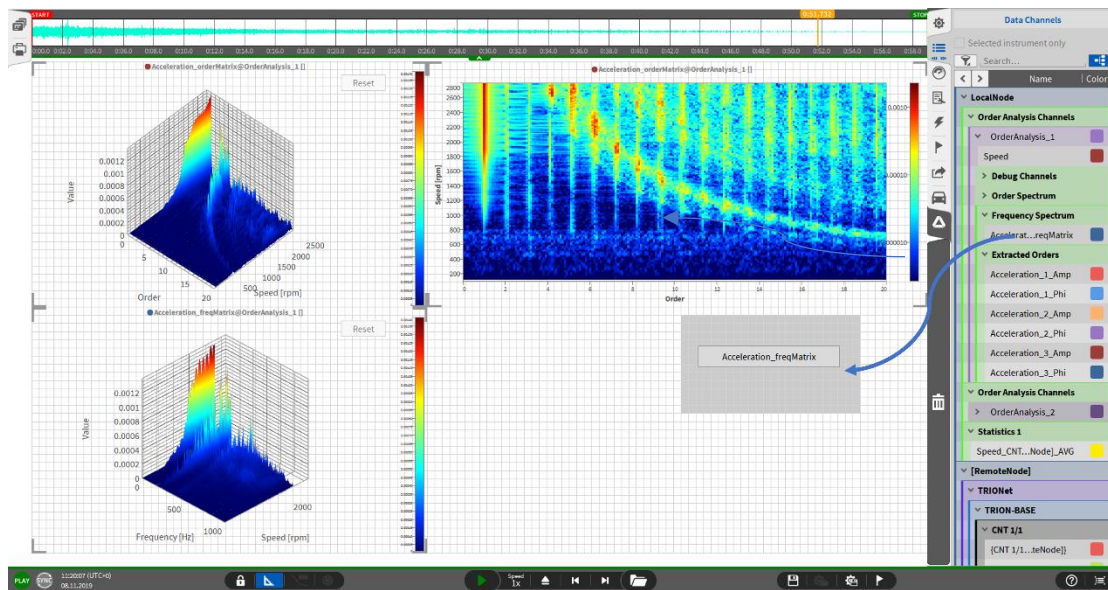

Figure 2-8: Display frequency matrix on the measurement screen
- Drag the frequency matrix channel (= FFT over speed) onto the screen and adjust the instruments (see Figure 2-8:)